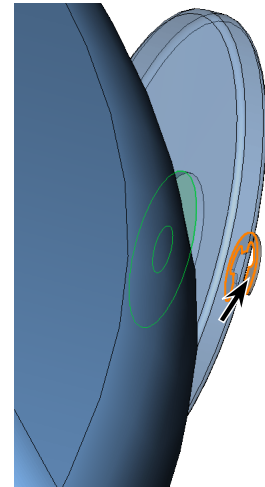

Fig. 21
Step 3. Use **Right arrow** key to rotate assembly to view side face of **inside face of E-Clip2**, **Fig. 21**.
Step 4. Click **inside face of E-Clip2**, **Fig. 21**.